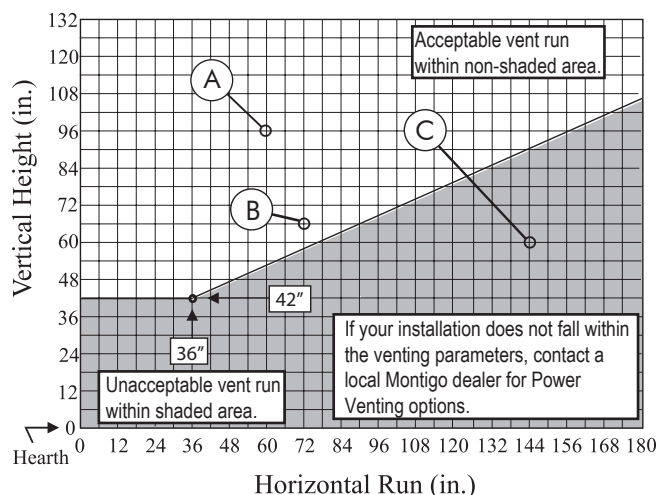

Figure 12. L38DF-ST* Top Vent Venting Graph for wall mounted terminations.
- Once the proposed venting layout has been determined refer to Figure 12 or 13 to ensure the layout is acceptable.
- Venting runs must fall within the limits set by the venting graph, see Figure 12.
Measure the vertical height from the fireplace hearth to the centre of the termination and the horizontal run from the fireplace flue collar to the wall flange of the termination. Plot on the Venting Graph Figure 12 with an 'X'.